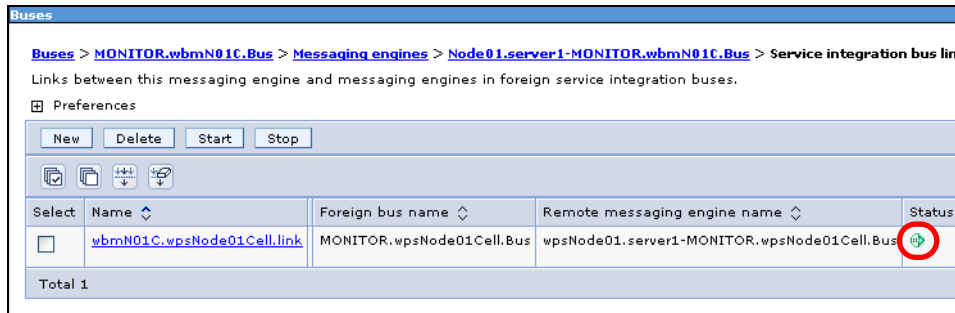

Figure B-19 Monitor SIB status check
- ▶ Navigate to *Service integration* → *Buses* → *MONITOR.xxxxx.Bus* → *Messaging engines* → *Node01.server1-MONITOR.xxxxxC.Bus* → *Service integration bus link* (Figure B-19).